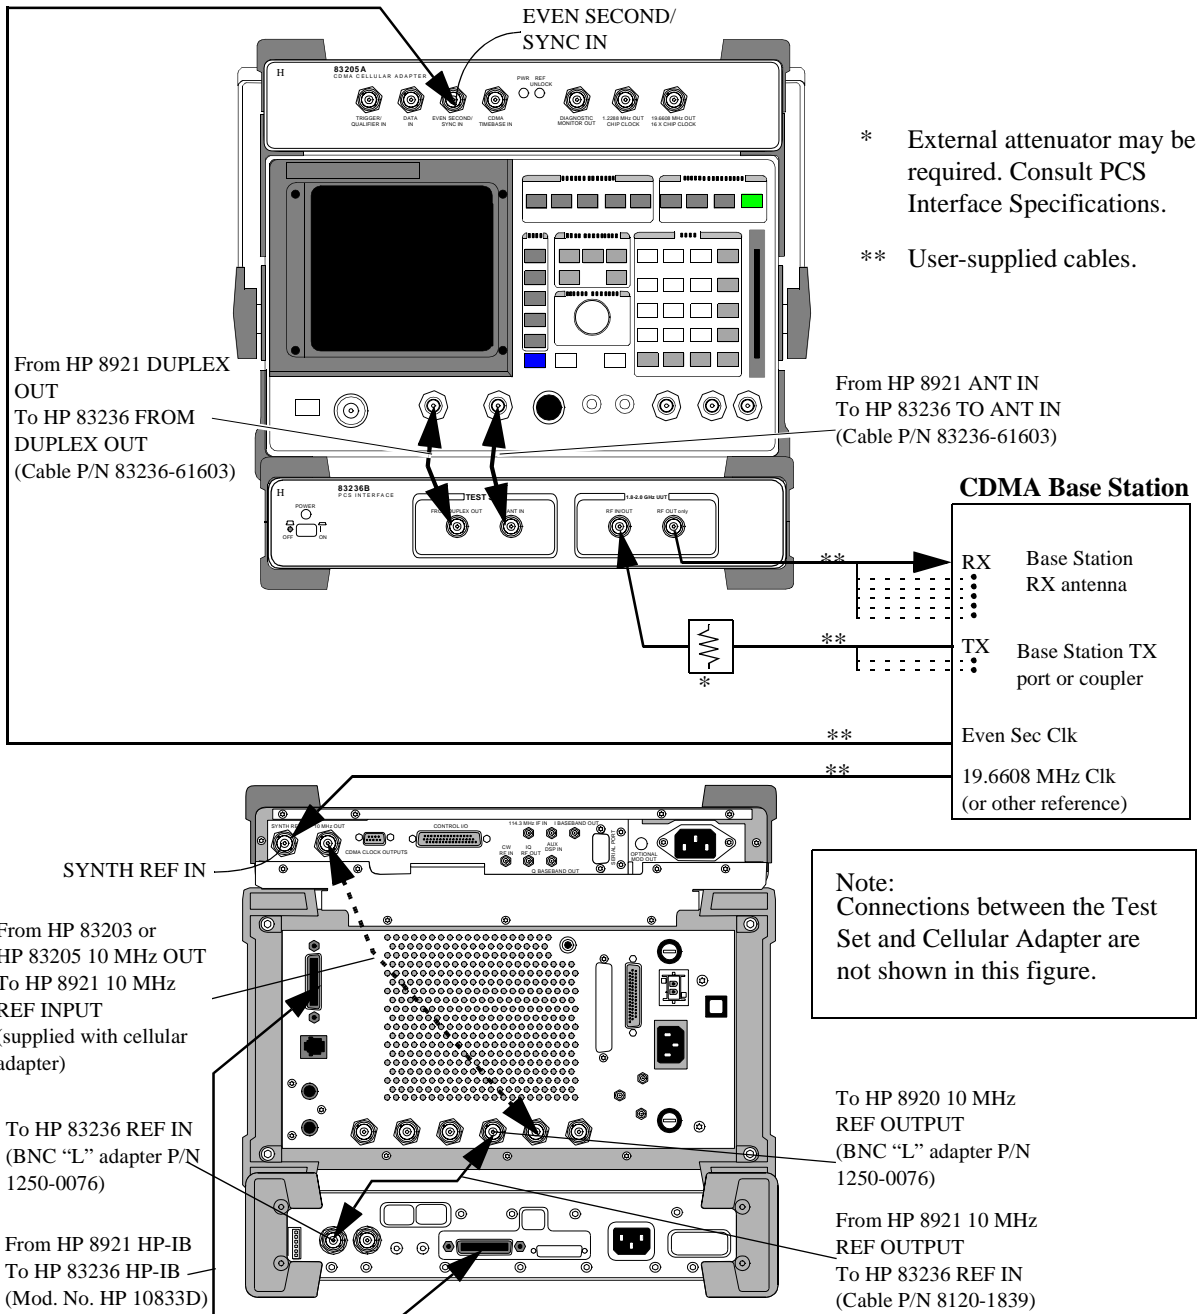

Figure 15 Connection Diagram for the HP 8921 Test Configuration (CDMA Base Station Tests)
- 2 Make the front and rear panel connections shown in figure 15.